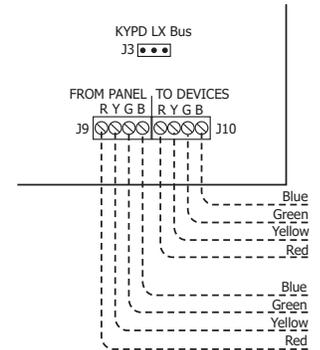

Figure 9: Data Bus Connections and KYPD LX Bus Expansion Jumper
1. Connect the control panel's keypad or LX bus to the **FROM PANEL** terminals on the 503INT. See Figure 9.